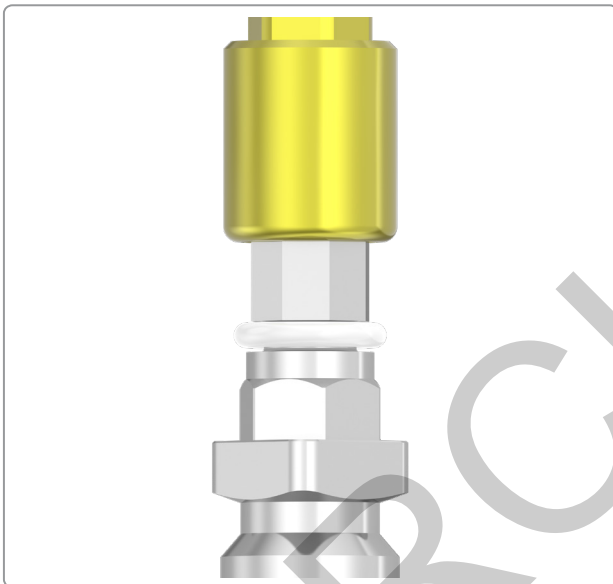
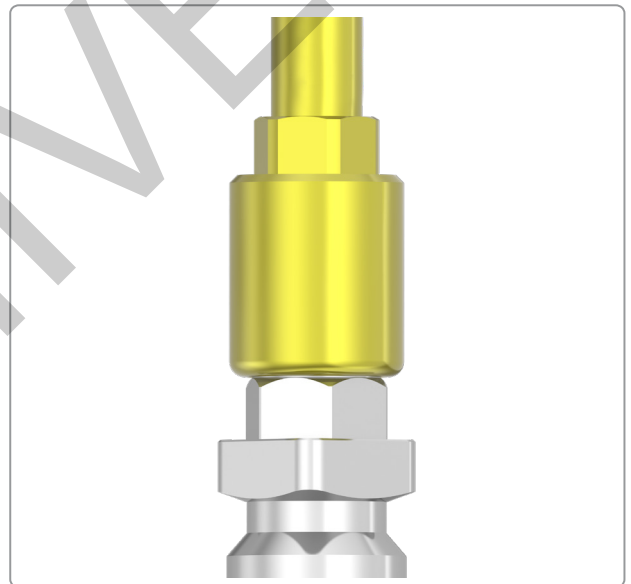

Figure 9: Not fully engaged I-CON-IT
Figure 10: Fully engaged I-CON-IT
2. Ensure that the I-CON-IT is fully engaged as per *Fig. 10*. Should the I-CON-IT not be fully engaged, as per *Fig. 9*, damage to the insertion tool and/or fixture mount may occur.